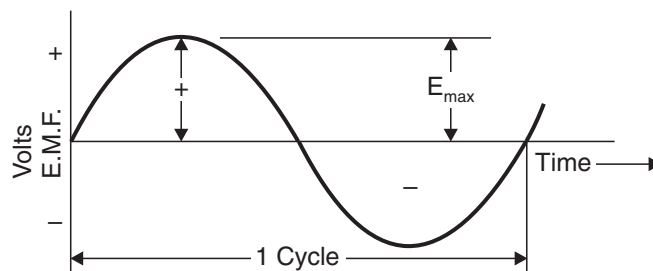

Fig. 5. The graph of the sinusoidal voltage.
The graph of the voltage will be as shown in Fig. 5.
R.M.S. value is the value which is taken for power purposes of any description. This value is obtained by finding the square root of the mean value of the squared ordinates for a cycle or half-cycle (See Fig. 5).
Refer to Fig. 5.